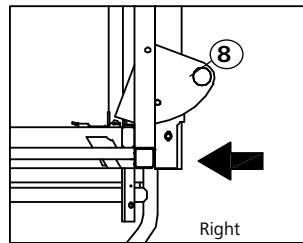
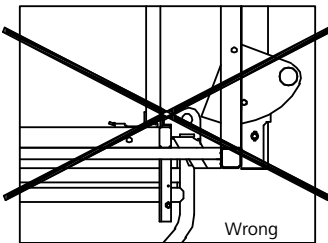

Fig. 5
Fig. 6
1. Insert the transport spreader LAB under the platform up to the stop and raise it until the forks contact the platform (Fig. 5). The transport spreader must always be positioned symmetrically to the platform's centre of gravity.
2. Attach the transport carabiner at position (A) for light work platforms and at position (B) for heavy work platforms.
3. To activate the restraint mechanism, ensure that both heavy-load latches (8) have been swivelled over the frame when lifting working platforms LAB (Fig. 6).